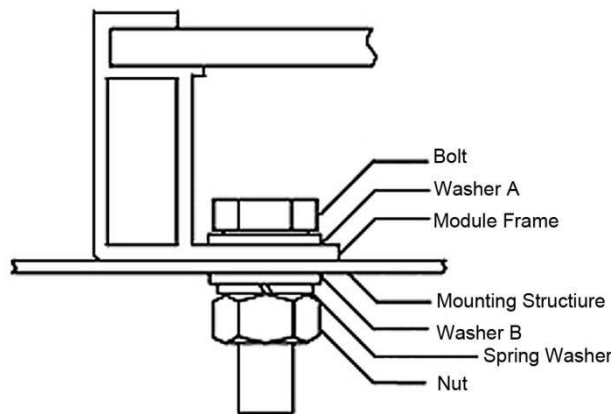

Figure 2
- The necessary components of the fixing parts are shown in figure 2 and recommended specifications are specified in Table 1 for aluminum framed modules and in Table 2 for steel framed modules.